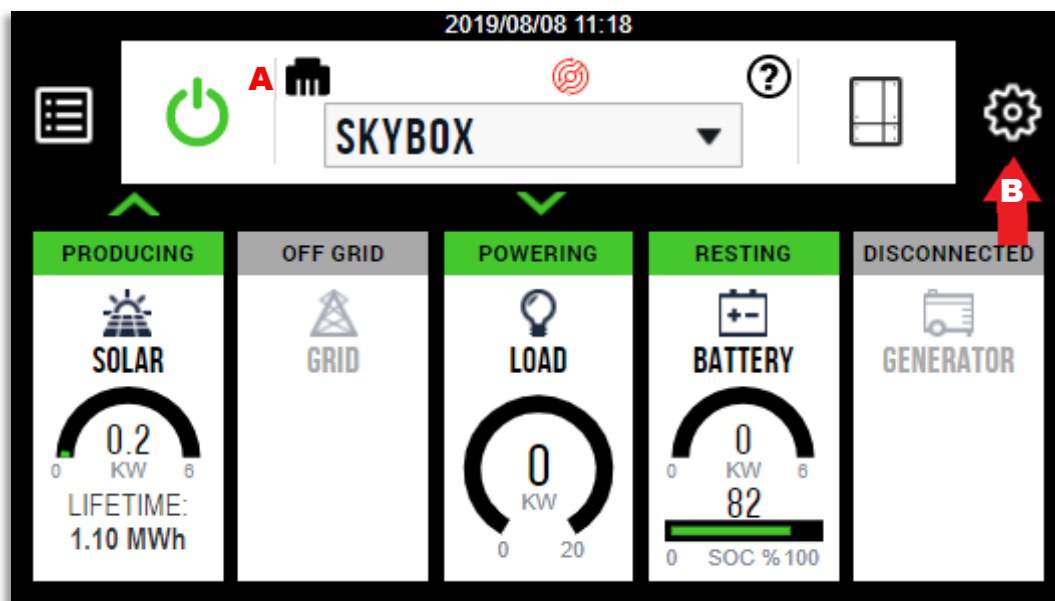

Figure 9 Home Screen
The first step in setting up your OPTICS account is actually connecting the SkyBox to your home network. The wiring steps are outlined in the *SkyBox Quick Start Guide*. In a nutshell, connect a CAT5 cable to the **WALL** port in the SkyBox and plug the other end into your router. You'll know if this was successful or not by the color of the ethernet icon **A** as shown in Figure 9. Black indicates a good connection, yellow a partial connection, and red is no connection.
A. Press the settings button, which is the gear wheel **B** shown in Figure 9.